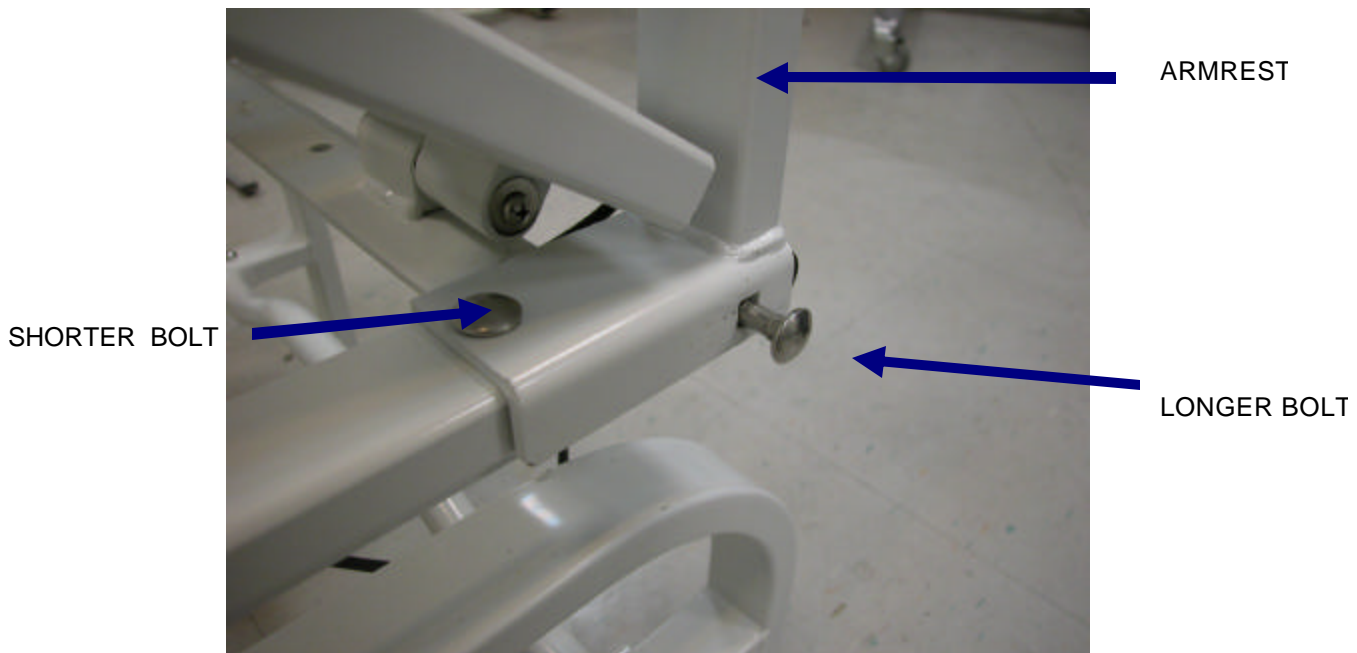

Figure M-1. Arm rest Mounting
- b. Raise the control lever to the “up” position on the forward end of the control handle. Raise seat to its highest position. Now the armrest mount holes will be accessible. See Figure M-1.
- d. Remove the nuts and bolts from the two mount bolt holes of the armrest as shown in Figure M-1.
- c. Place the mount bolts through the two mount bolt holes of the frame and armrest as shown in Figure M-1. Install the nuts on the bolts, and tighten them securely.